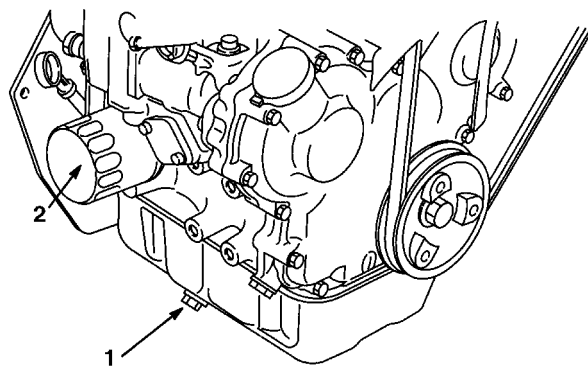

Figure 26
4. Place a pan below the oil drain. Remove the drain plug and let the oil drain completely (Fig. 26).